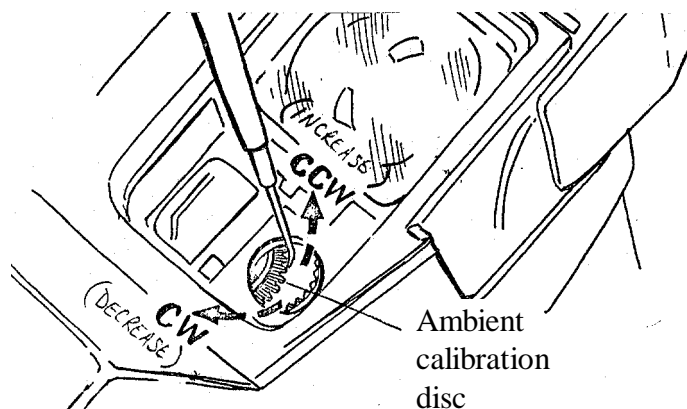

Fig. 11 Adjusting Ambient Calibration Disc
- b. Using a dental pick, narrow-bladed screwdriver or other suitable tool, adjust the ambient calibration disc. Move the ambient calibration disc clockwise (CW) to decrease the reading or counterclockwise (CCW) to increase the reading (Fig. 11).